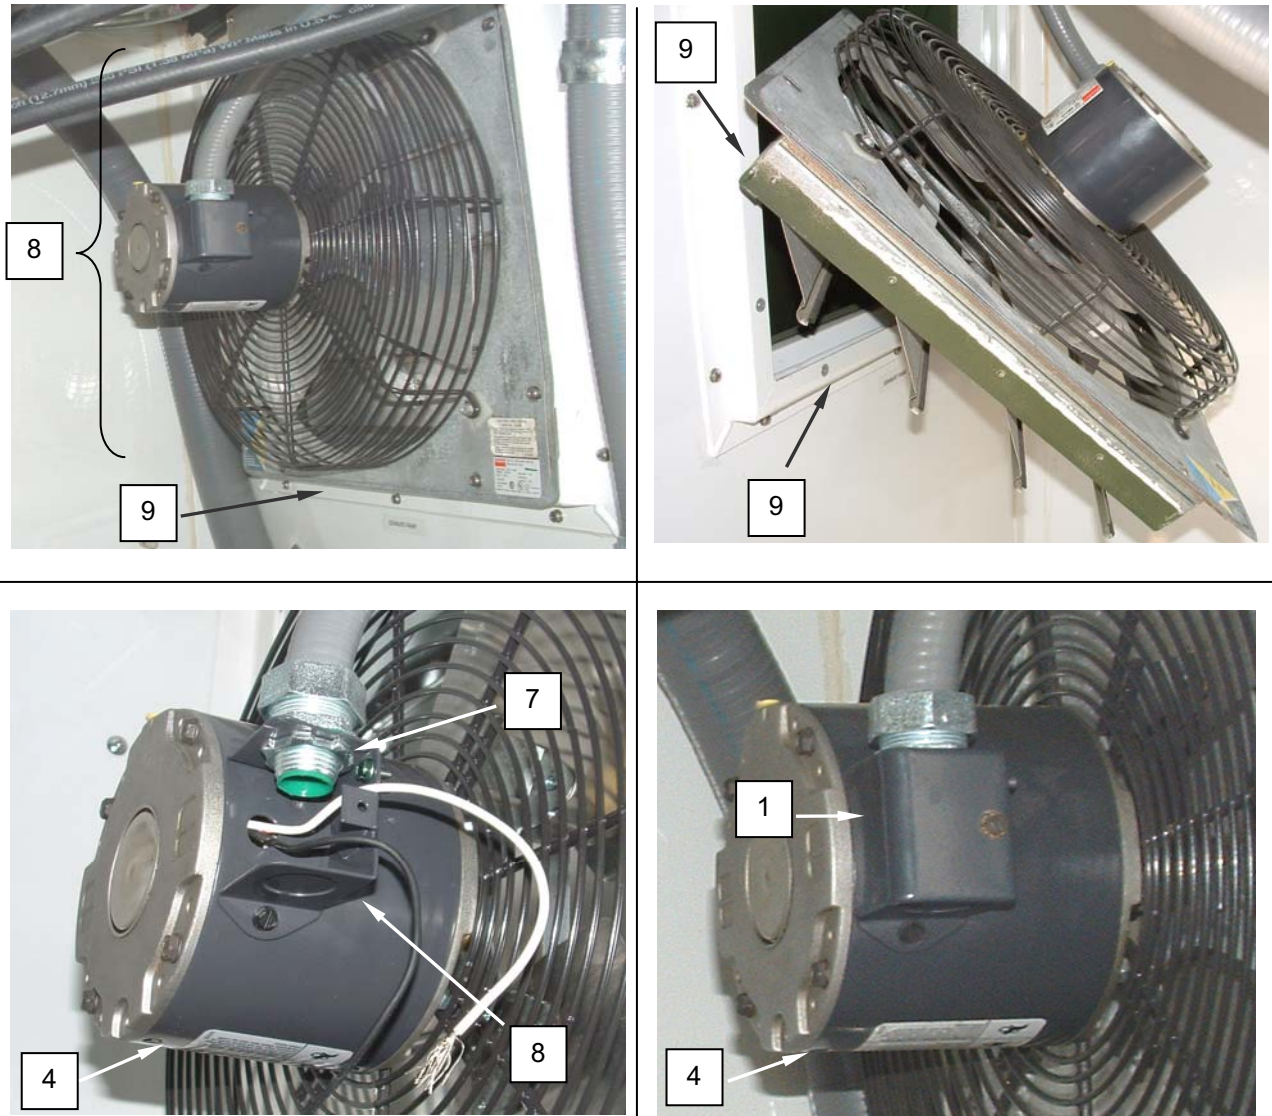

Figure 4. Replace the Exhaust Fan.
5. Remove screws retaining louver assembly with fan (**Figure 4, Item 9**) to bulkhead, and remove louver assembly with fan.
6. Install new louver assembly with fan (**Figure 4, Item 9**) and secure with screws to bulkhead.
8. Install conduit into junction box (**Figure 4, Item 8**) and retain with locknut (**Figure 4, Item 7**).
9. Connect wiring to fan (**Figure 4, Item 4**) as tagged.
10. Install junction box cover (**Figure 4, Item 1**) and retain with screws.